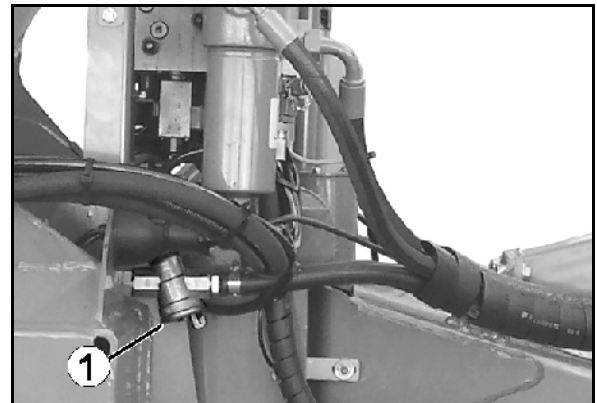

Fig. 95
1. Press together the locking piece (Fig. 95/1) on the two lugs.
4. Press together the locking piece (Fig. 95/1) on the two lugs.